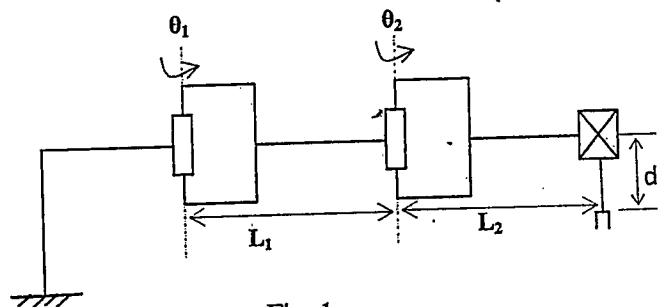

Fig. 1
4. For the link SCARA manipulator shown in Fig. 1, assign the link frames and find the transformation matrix from the end effector to the base. [16]